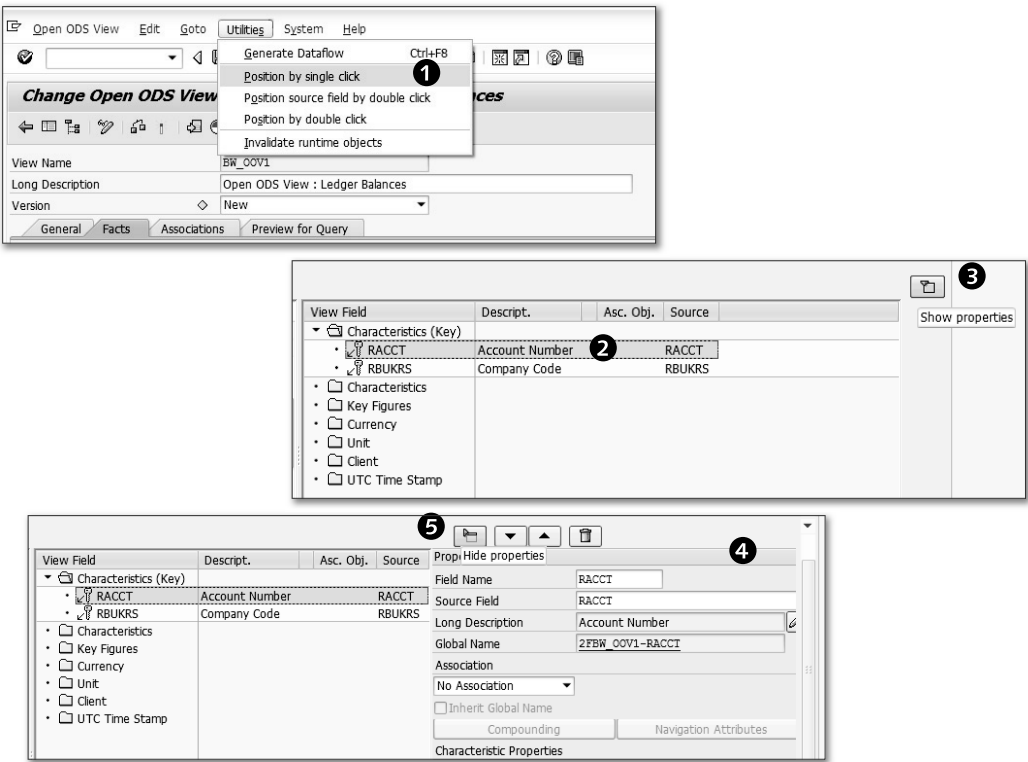

Figure 6.81 Opening the Properties for a Field
- ▶ From the menu bar, select UTILITIES • POSITION BY SINGLE CLICK (❶ of Figure 6.81). After selecting this option, whenever you click on a field under the VIEW FIELD column, the PROPERTIES section opens for the selected field.
- ▶ Select a field under the VIEW FIELD column for which you want to open the PROPERTIES section, and click on SHOW PROPERTIES icon (❸ of Figure 6.81).